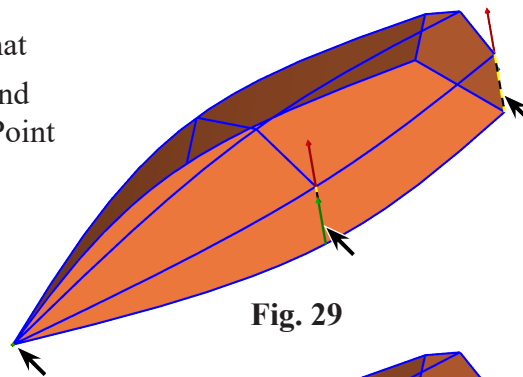

Fig. 29
Step 8. Repeat on starboard side. That is, click Single  (S) and selects port rib lines. Click Point  (T) and select Point, **Fig. 29**.